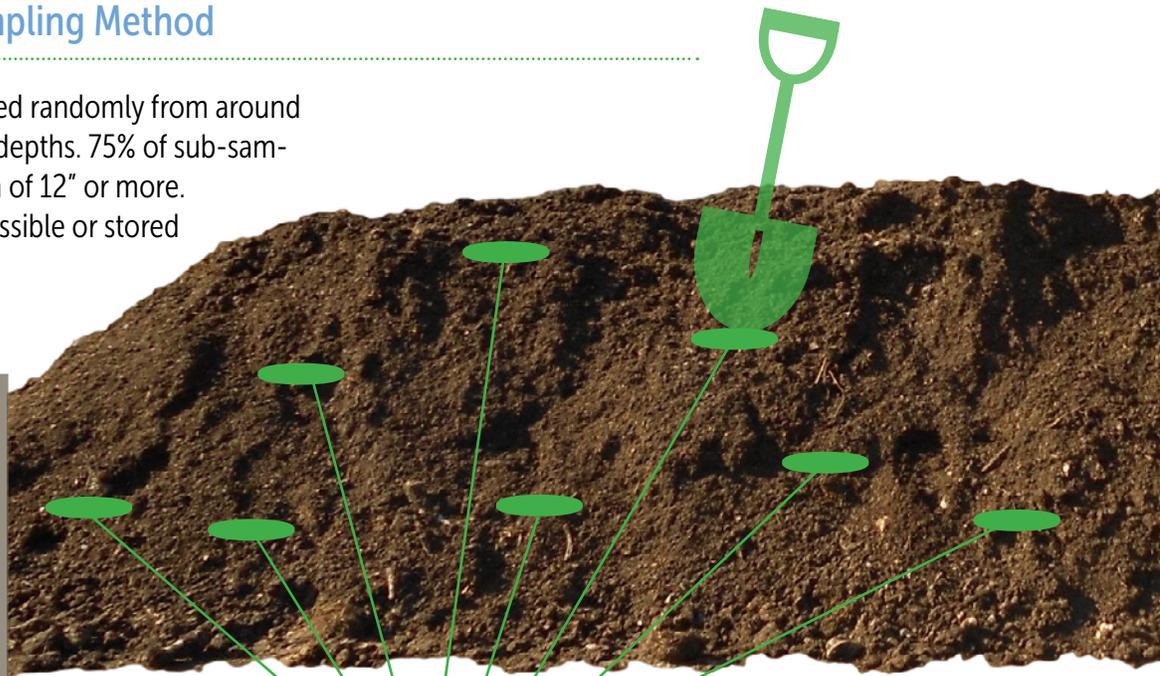

## Figure 1. Feedstock Sampling Method
1. Take at least 16 sub-samples (one shovel-full) from around the pile, including all sides and at various depths. Approximately 75% of sub-samples should be obtained 12" in from the outer edge of the pile. See Figure 1 on page 2 for pile sampling process.